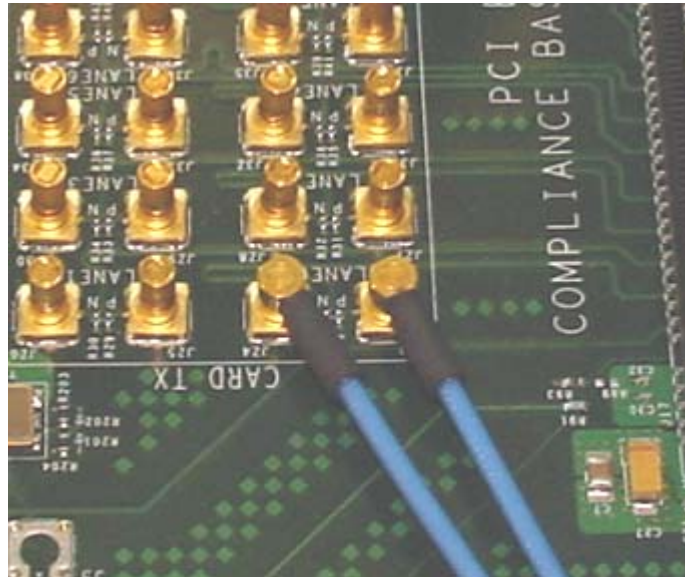

Figure 180 Compliance Base Board (CBB) 2.0 SMP Probing Option
- a Digital Storage Oscilloscope channel 1 to the D+ (where Lane 1 is under test in this example shown in Figure 180 above).
- b Digital Storage Oscilloscope channel 3 to the D- (where Lane 1 is under test in this example shown in Figure 180 above).